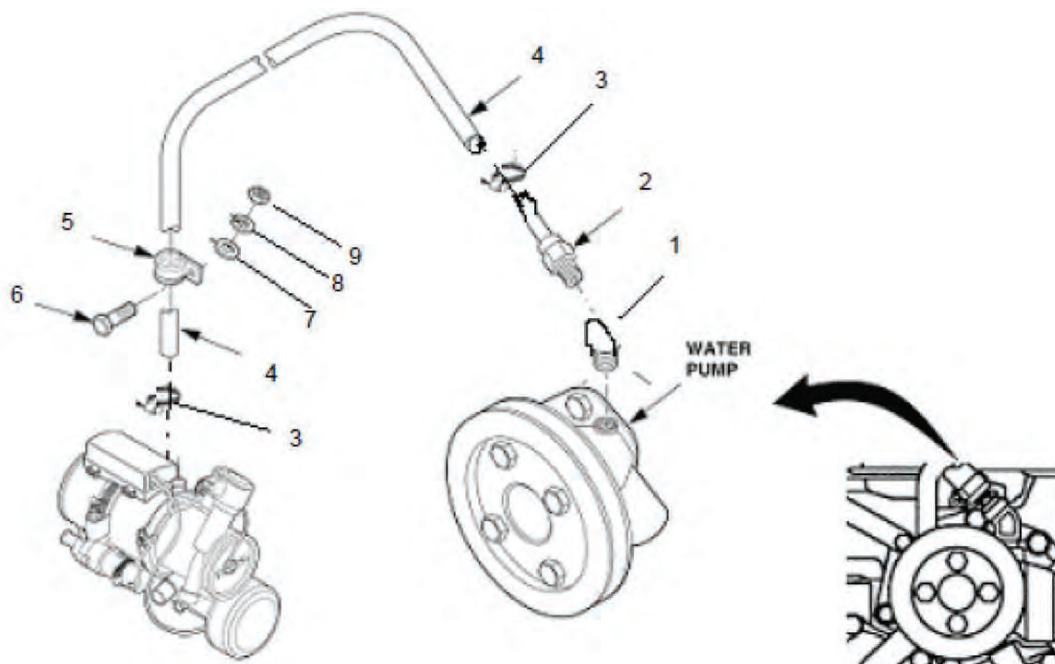

Figure 4. Coolant Outlet Hose Removal.
10. Remove elbow 90° (Figure 4, Item 1), standoff (2), clamps (3 and 5), coolant hose (4), screw (6), flat washer (7), lockwasher (8), and nut (9) from water pump and heater assembly. Replace new plug in water pump.